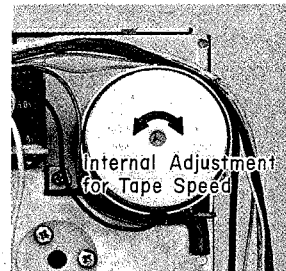

Fig. 5-9 Tape Speed Adjustment Location
4. Using a common slotted screwdriver whose handle is completely insulated from the screwdriver blade, adjust the control located at the center of the Motor as shown in Fig. 5-9 for reading of  $3,000 \pm 5 \text{ Hz}$  on the frequency counter.